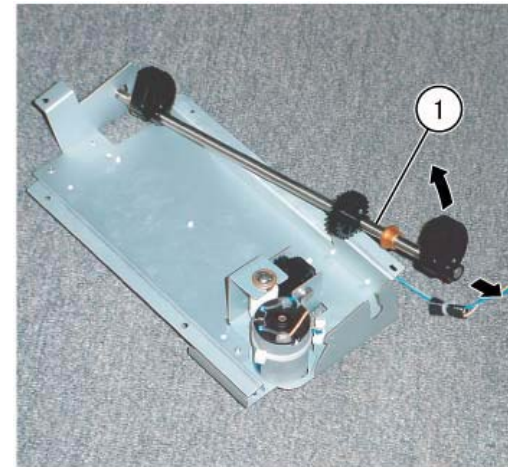

Figure 9 Removing the Stacker Shaft Assembly
- 14. Remove the Stacker Shaft Assembly (Figure 9):